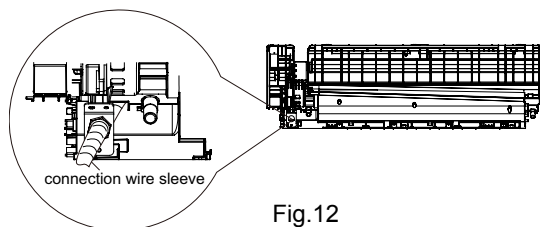

Fig.12
(2) Fix the wire crossing board on connection wire sleeve at the bottom case; let the connection wire sleeve go through the wire crossing hole at the back of indoor unit, and then pull it out from the front.(As show in Fig.12)